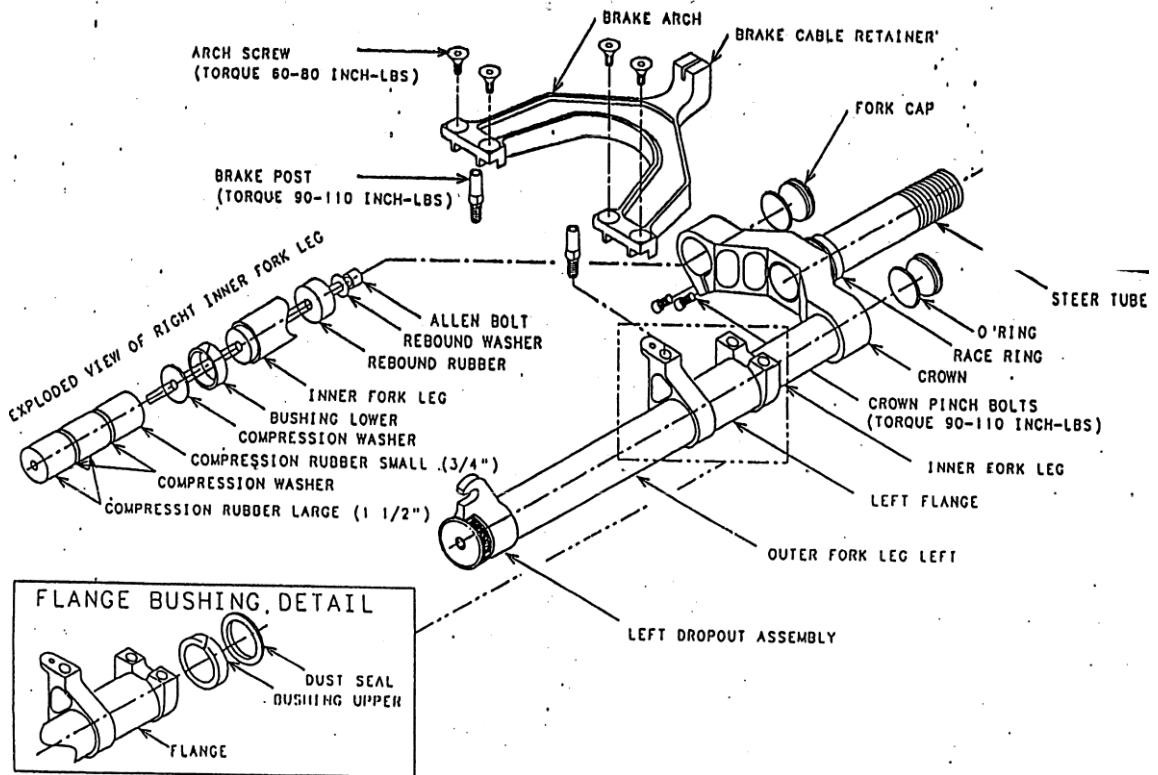

Figure 2
5. Install lower bushing(small) into the goove on the lower leg and assemble elastomers as shown on the exposed allen bolt, be sure to have an elastomer space between each elastomer (Figure 2).